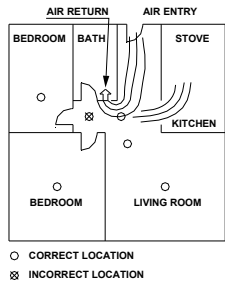

Fig. 4 – Dead-air areas
- In dead-air areas, where ventilation systems cause air-flow that would not pass through the smoke sensing chamber. Avoid also air-flow from areas where normal combustion particles are expected, such as kitchens. Fig. 4, which indicates the correct and incorrect smoke alarm locations.